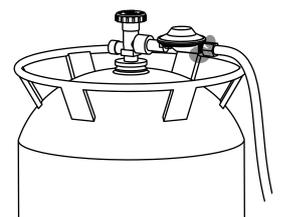

Figure 9
- **Regulator and hose** (see Figure 9)